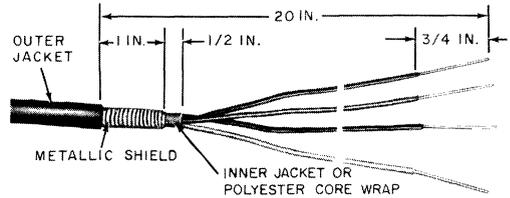

Fig. 14—Prepared Service Wire—D Cable Closure
5.04 Prepare service wire as illustrated in Fig. 14.